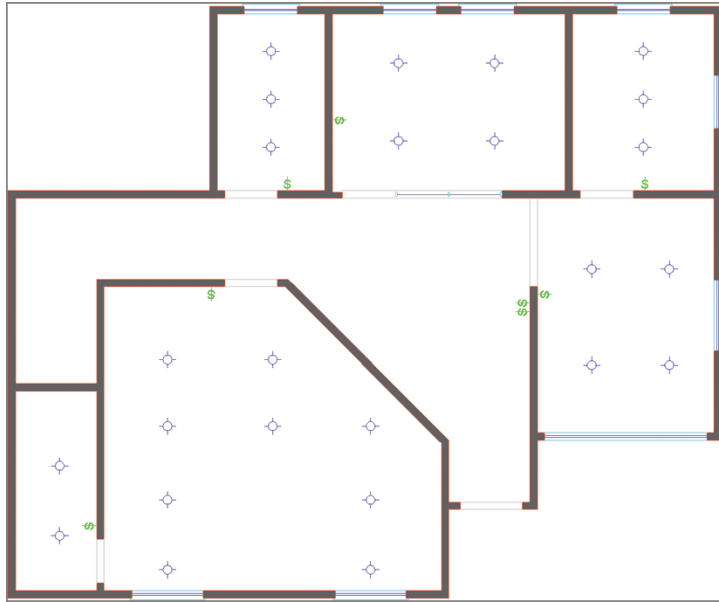

FIGURE 6.12 Reflected ceiling plan created by toggling layers off
5. Type **Y** (for Yes), and press Enter. Press Esc to end the LAYOFF command. Figure 6.12 shows the result.